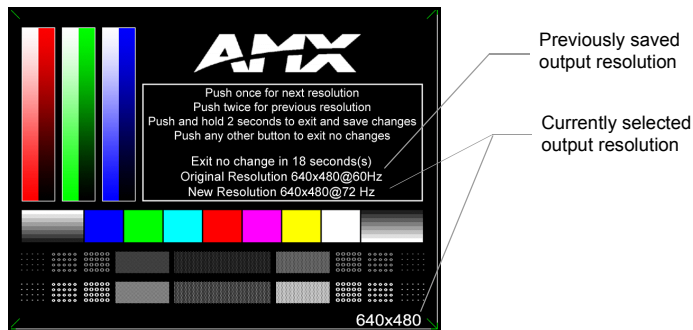

FIG. 3 Resolution Setup page (showing the comparative resolutions)
- Firmly press and hold the front TPI/4 **RESOLUTION** button. This single press opens the Resolution Setup page (FIG. 3) on the panel.